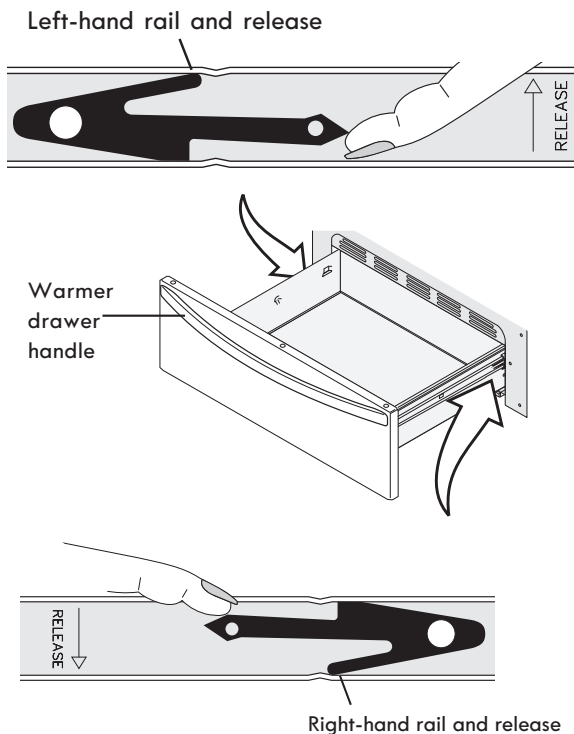

Figure 44: Removing the warmer drawer
3. On left warmer drawer rail, locate black release lever and press up with finger while pulling out slightly on the oven drawer handle. On right warmer drawer rail, locate black release lever and press down with finger while pulling out slightly on the warmer drawer handle (Figure 44).
2. Carefully line up both sides of the warmer drawer glide rails to the outer compartment glide channels located inside the empty warmer drawer compartment (See Figure 44).